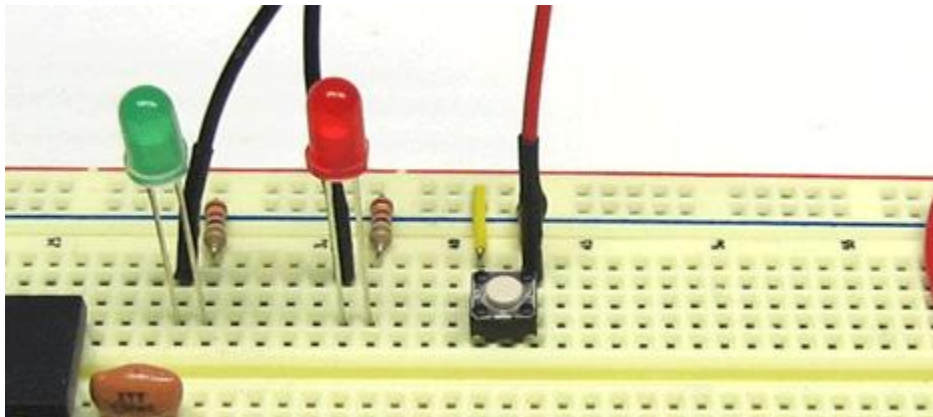

Figure 5. Connecting the button to the microcontroller.
2. Using a flexible jump wire, connect the ground side of the button to Port 6 on the Arduino, as shown in Figure 5. (If you need help finding Port 6, consult the Arduino Quick Reference at the end of this document.)